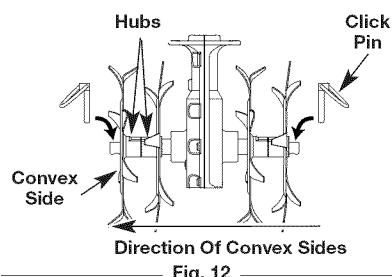

Fig. 12
2. Remove the click pin from each end of the tine shaft. Slide the tines off of the shaft (Fig. 12).
4. Slide on the new tines with the hubs facing each other (Fig. 12).
- NOTE:** Each tine has a convex side. Make sure that all of the convex sides are facing as shown in Figure 12.